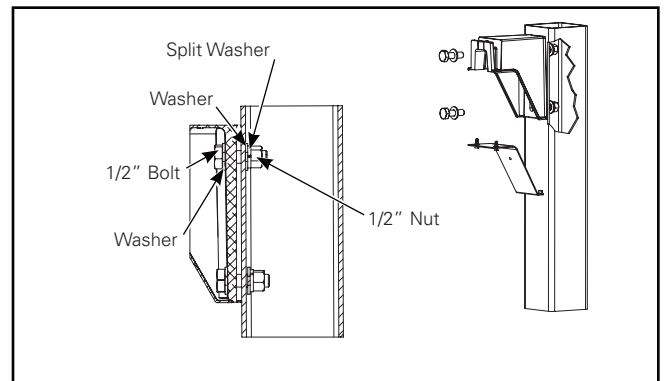

Figure 11.
3. Using provided 1/2" hardware, secure the pole mount arm to pole. Torque bolts to 40 ft-lbs. (Figure 11.)